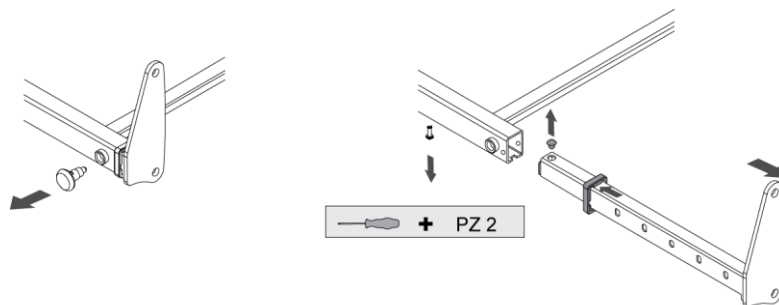

Figure 5.5: Removing of the frontpanel attachment for Trix sideguards
- Then remove the bed panels together with the frontpanel attachments(see fig 5.5)